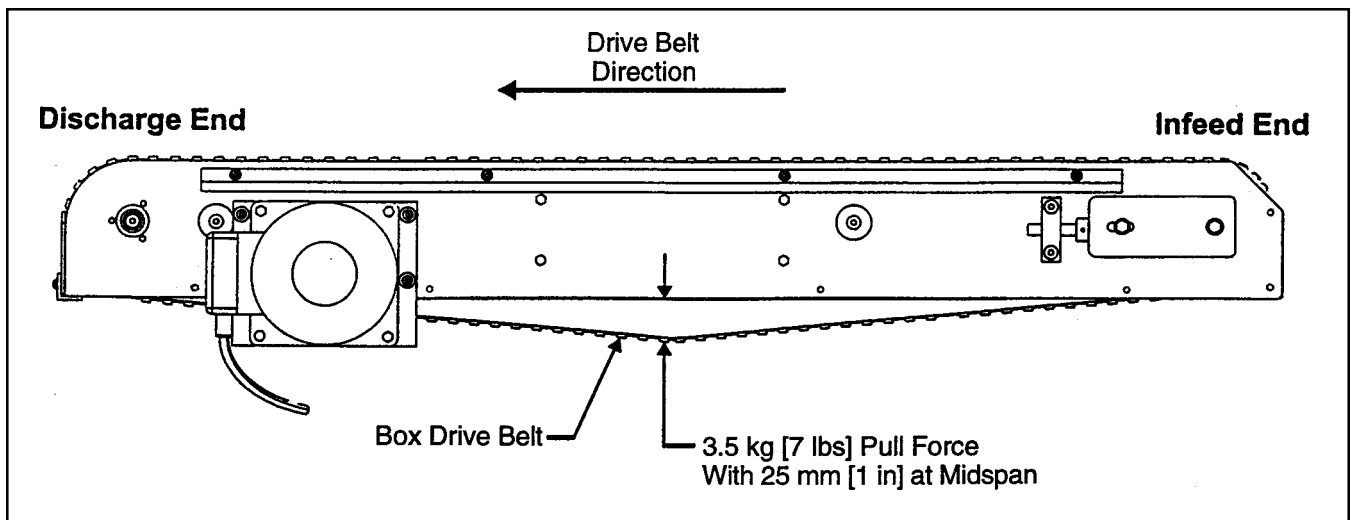

**Figure 4-3 – Box Drive Assembly, Infeed End**
10. Loosen, but do not remove lock nuts (H) on both the upper and lower belt tension assemblies. See Figure 4-3.
11. Turn belt adjustment screws (J) clockwise on both the upper and lower tension assemblies until belt is loose. See Figure 4-3.
14. To set drive belt tension, turn adjustment screws (J) equally on both the upper and lower tension assemblies. Turn the screws counterclockwise to increase tension or clockwise to decrease tension. See Figure 4-3.